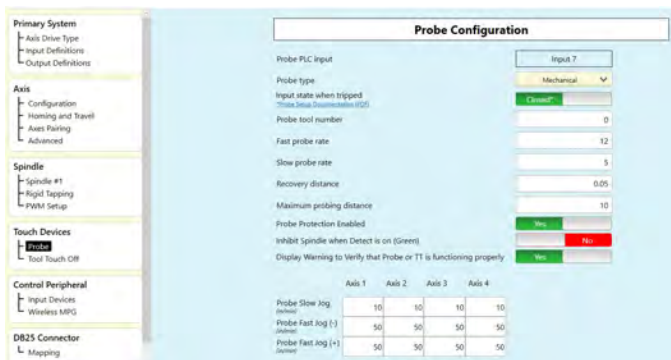

FIGURE 6
B. Click on Probe and input the values shown below (see Figure 6).